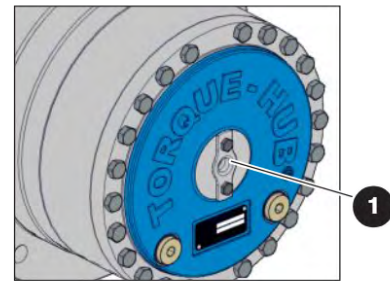

Figure 20 Disengage cap
6. Locate disengage cap (Figure 20 - item 1).